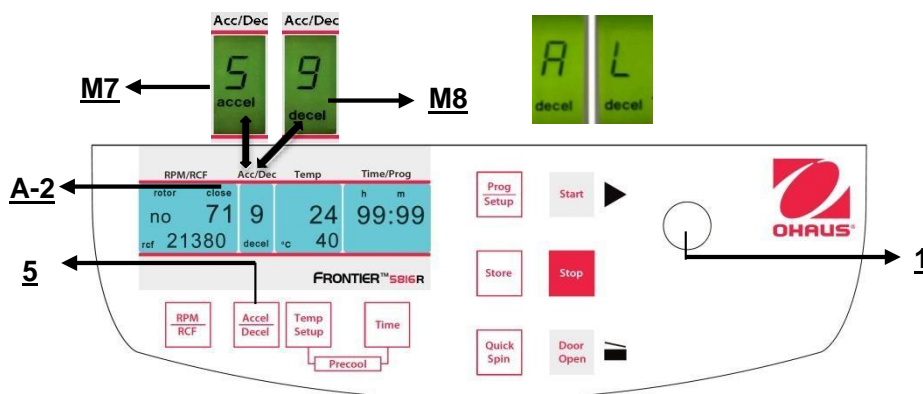

Figure. 21
This function is activated through the key "Accel/Decel" (5) (refer to figure 21).
Close the lid, then press the key "**Time**" (6) (refer to figure 21) and the key "**Prog/Setup**" (11) at the same time and hold them.